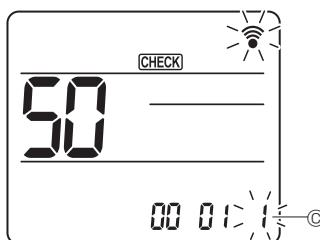

Fig. 6-19
④ Selecting the setting number
Use the **[▼]** button to change the Setting number ⑥. (Fig. 6-19)